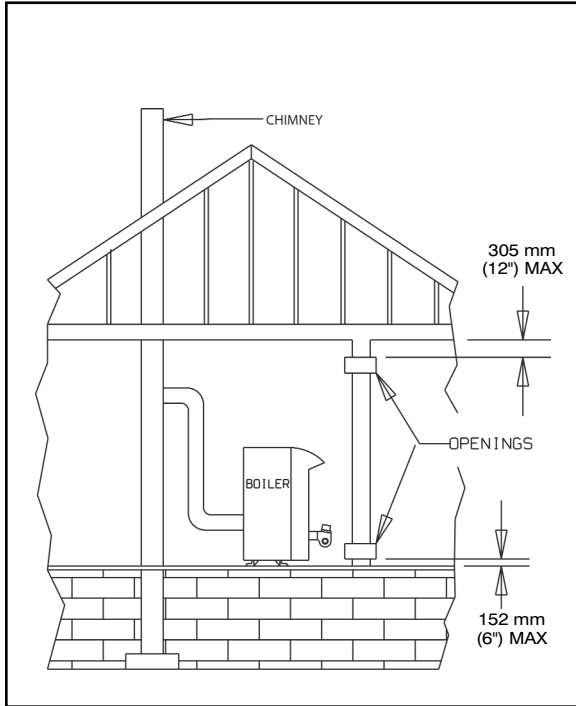
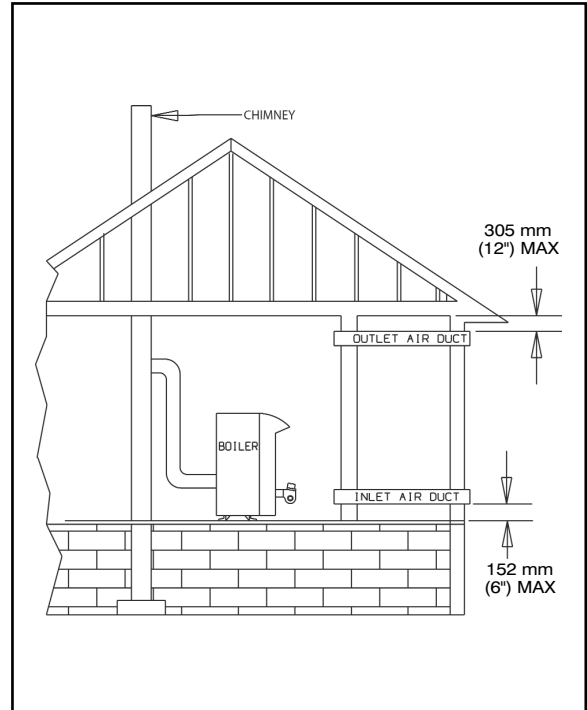

Figure 3a. Appliances located in confined spaces. Air from inside the building. See Table 2 (2.3).
Figure 3b. Appliances located in confined spaces. Air from outdoors. See Table 2 (2.4).
- E. Install barometric draft regulator on horizontal breeching, near chimney, with hinge horizontal and face vertical conditions permitting as in Figure 3a. See Figure 3b as a second choice. See manufacturer's instructions packed in carton with barometric draft regulator.